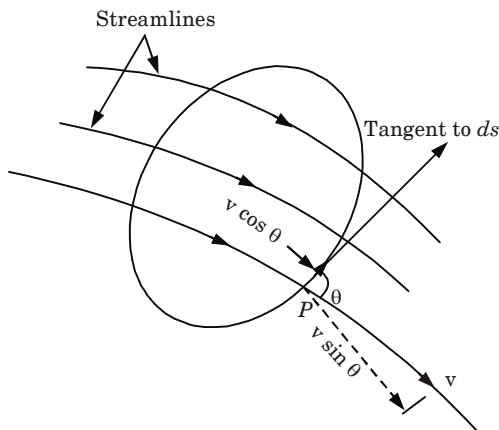

Fig. 2.10.1. Circulation in a two-dimensional flow.
1. Let us consider a closed curve in a two-dimensional flow field as shown in Fig. 2.10.1, the curve being cut by the streamlines.